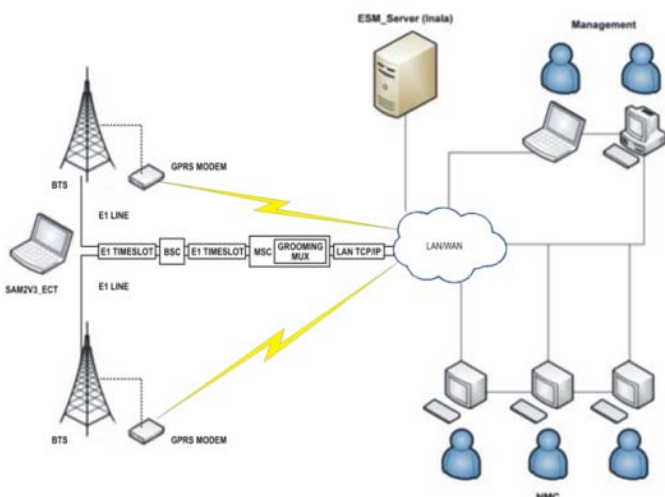

Figure 5
- The second option (figure 5) is fitting the RMS controller with an E1 controller. Communications with the central network management server is done using a dedicated E1 timeslot though a nailed-up connection. A grooming mux is used to convert the E1 into TCP-IP for connection to the customer LAN/WAN network.